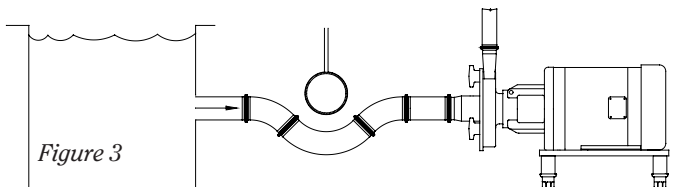

Figure 3
- Avoid sump areas where sediments may collect (*Figure 3*).